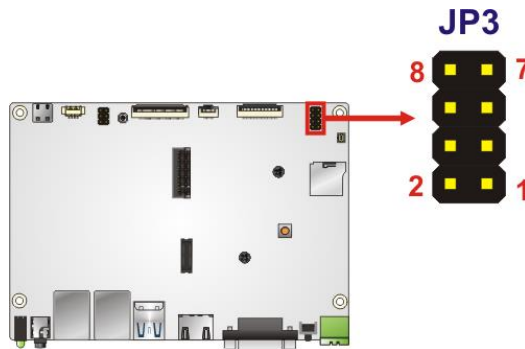

Figure 3-4: GPIO Connector Location
- CN Location:** See **Figure 3-4**